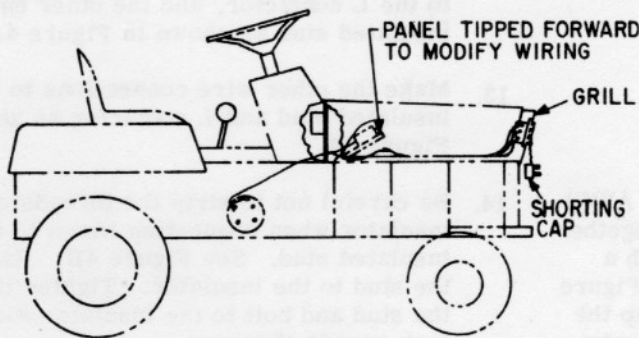
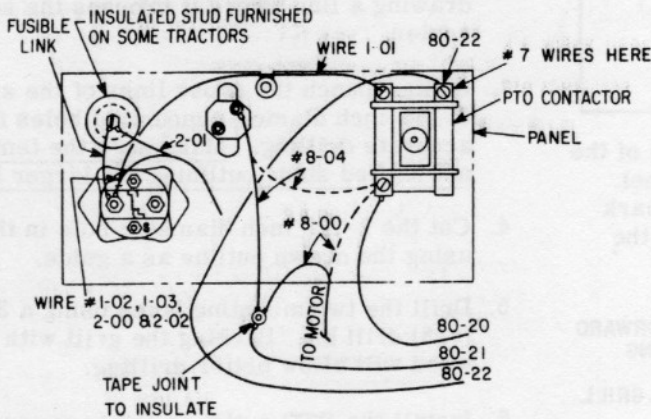

Figure 1
Figure 4A
- Lower the upper control panel so its mounted components are exposed (see Figure 1) and locate the PTO contactor, which is mounted on the right end of the panel. See Figure 4A.
- Remove wire 8-00 (8 AWG) and 8-04 (10 AWG) from the PTO contactor and join them together with wire 80-21 from the PTO outlet with a 1/4-20 bolt, lockwasher, and nut. See Figure 4A. Make sure the nut is tight, and wrap the entire connection in several layers of electrical tape.
- Connect wire 80-20 from the PTO outlet to the PTO contactor terminal where wires 8-00 and 8-04 have just been removed. See Figure 4A. Do not disturb wires 8-01 and 8-02.
- Connect wire 80-22 from the PTO outlet to the PTO contactor terminal already connecting wires numbered 7. See Figure 4A.
and replace it with the insulated stud assembly provided as shown in Figures 4A and 4B. On other models the insulated stud assembly is already present, and the one furnished in the kit is not required.
- Discard wire 1-00 between L contactor and CB-3 (if previously equipped) and replace it with the fusible link supplied. (Models with insulated studs already have a fusible link installed.) One end of the fusible link attaches to the L contactor, and the other end to the insulated stud as shown in Figure 4A.
- Make the other wire connections to the insulated stud and L contactor as shown in Figure 4A.